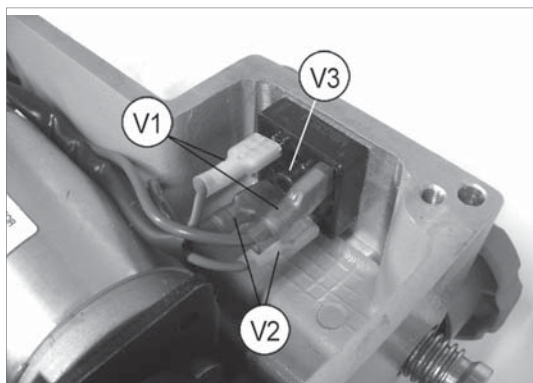

Fig. 37
- 2) Detach the 4 connectors (V1) and (V2) paying special attention to their position (Fig. 37).